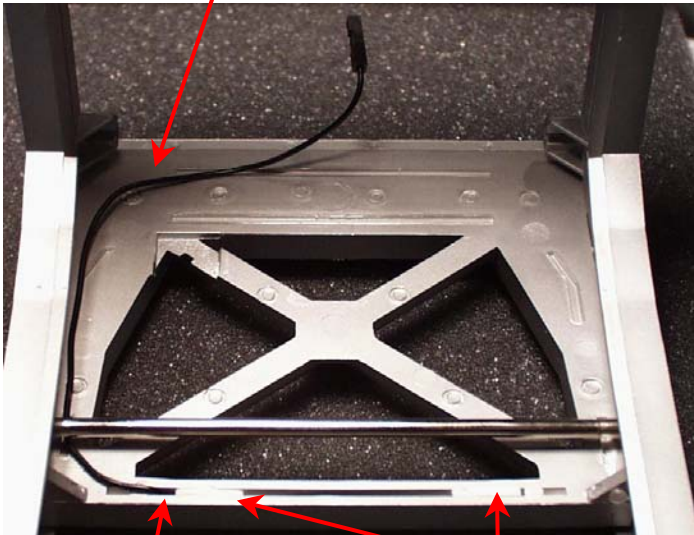

FIGURE 7
Step 10: Antenna Connection (Figure 7)
Cut the antenna wire to about 9 inches, and place in the crane base as shown in Figure 7. Use a couple pieces of double stick tape or hot glue to secure the wire in the channel. It is helpful to secure the wire additionally as indicated in the figure.